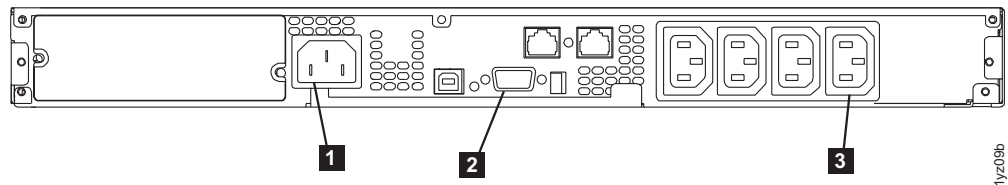

Figure 310. 2145 UPS-1U (rear view)
9. At the back of the 2145 UPS-1U, connect the SAN Volume Controller power cable to load segment 2 receptacle (**3** in Figure 310 on page 323). If applicable, install the power cable-retention bracket (shown in Figure 309 on page 323).
10. Reconnect the SAN Volume Controller signal cable to the communication port (**2** in Figure 310).
11. Reconnect the 2145 UPS-1U main power cable, from either the power distribution unit or from the redundant ac-power switch, into the input connector (**1** in Figure 310).
The 2145 UPS-1U is now in standby mode with the SAN Volume Controller offline. All indicators that are shown in Figure 310 are off.